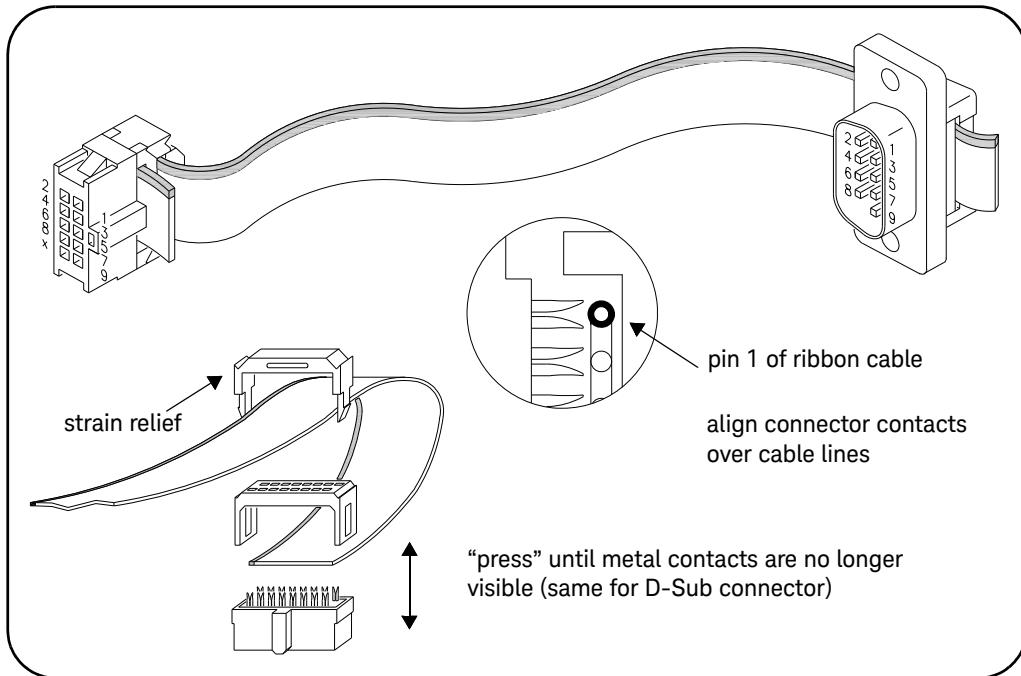

Figure 1-2 Y1157A Connector Orientation and Ribbon Cable Routing.
- 2 Position the D-Sub connector and the ribbon cable connector as shown in Figure 1-2. Route the cable **through** the connectors, noting the location of cable pin 1. By convention, pin 1 is indicated in red (the dark line in the drawing).
- 4 Align the metal contacts of the ribbon connector over cable pin 1 (Figure 1-2) and the other pins, press the ribbon cable connector onto the cable using a vise or clamp to press the contacts **evenly** through the cable insulation. Continue to press the connector until the metal contacts are no longer visible.
- 5 Fasten the strain relief clamp over the cable and into the ribbon cable connector as shown in Figure 1-2. Remove any excess cable after the clamp is in place.